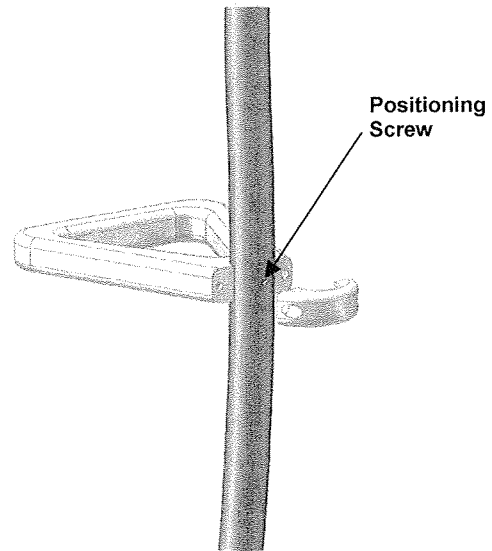

Figure 15: Handle Installation
3. After mounting the small piece onto the post overtop the positioning screw, attach the large part of the handle using the two Phillips screws. Refer to Figure 15